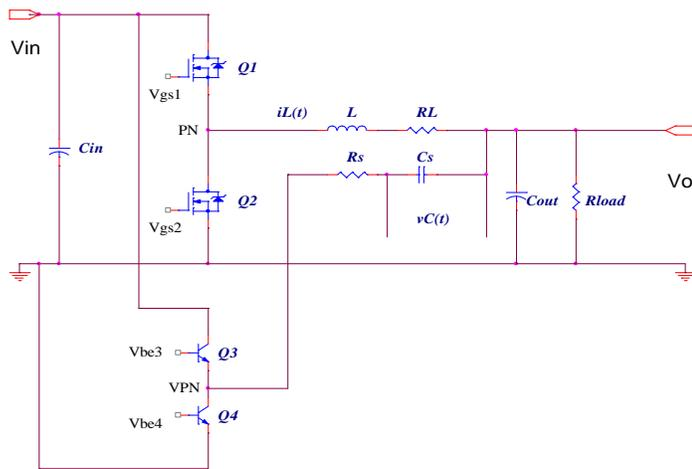

Fig.1 The Basic Structure of Combi-Sense.
The basic structure of the Combi-Sense is shown in Fig.1. Where  $R_L$  is the equivalent resistance of the output inductor. The added  $R_s$  and  $C_s$  form the RC branch in "parallel" with the output inductor for inductor current sensing. This branch works with a small signal totem pole (Q3 and Q4) integrated in SC4510 in order to improve the signal-to-noise ratio. The base signals Vbe3 and Vbe4 are designed to closely follow the gate signals Vgs1 and Vgs2, respectively. Ideally, the leading and falling edges of the Virtual Phase Node (VPN) follow that of the Phase Node (PH) when Q1~Q4 switch in perfect synchronism.
When Q1/Q3 turn ON and Q2/Q4 turn OFF, the equivalent circuit of Fig.1 is shown in Fig. 2a). Where,  $R_{ds1}$  is the on-resistance of the top MOSFET. The two branches, consisting of  $\{(R_{ds1}+RL), L\}$  and  $\{R_s, C_s\}$ , are in parallel. The DC voltage drop  $(R_{ds1}+RL)I_o$  equals  $V_{cs}$ . In this way, the output current is sensed from  $V_{cs}$  when  $(R_{ds1}+RL)$  is known.
When Q1/Q3 turn OFF and Q2/Q4 turn ON, the equivalent circuit of Fig.1 becomes the sub-circuit as shown in Fig. 2b). Where  $R_{ds2}$  is the channel resistance of the bottom MOSFET. In this case, the branch  $\{R_s, C_s\}$  is in parallel with  $\{(R_{ds2}+RL), L\}$  and  $V_{cs}=(R_{ds2}+RL)I_o$ .
In SC4510, the current limiting is performed on cycle-by-cycle basis. When the voltage difference between CS+ and CS- exceeds 65 mV, the top MOSFET duty ratio is clipped in order to limit the output source current. Similarly, when the voltage difference between CS- and CS+ exceeds 113 mV, the bottom MOSFET duty ratio is clipped in order to limit the sink current. For the configuration in Fig.1, the convertor output current limit is set around